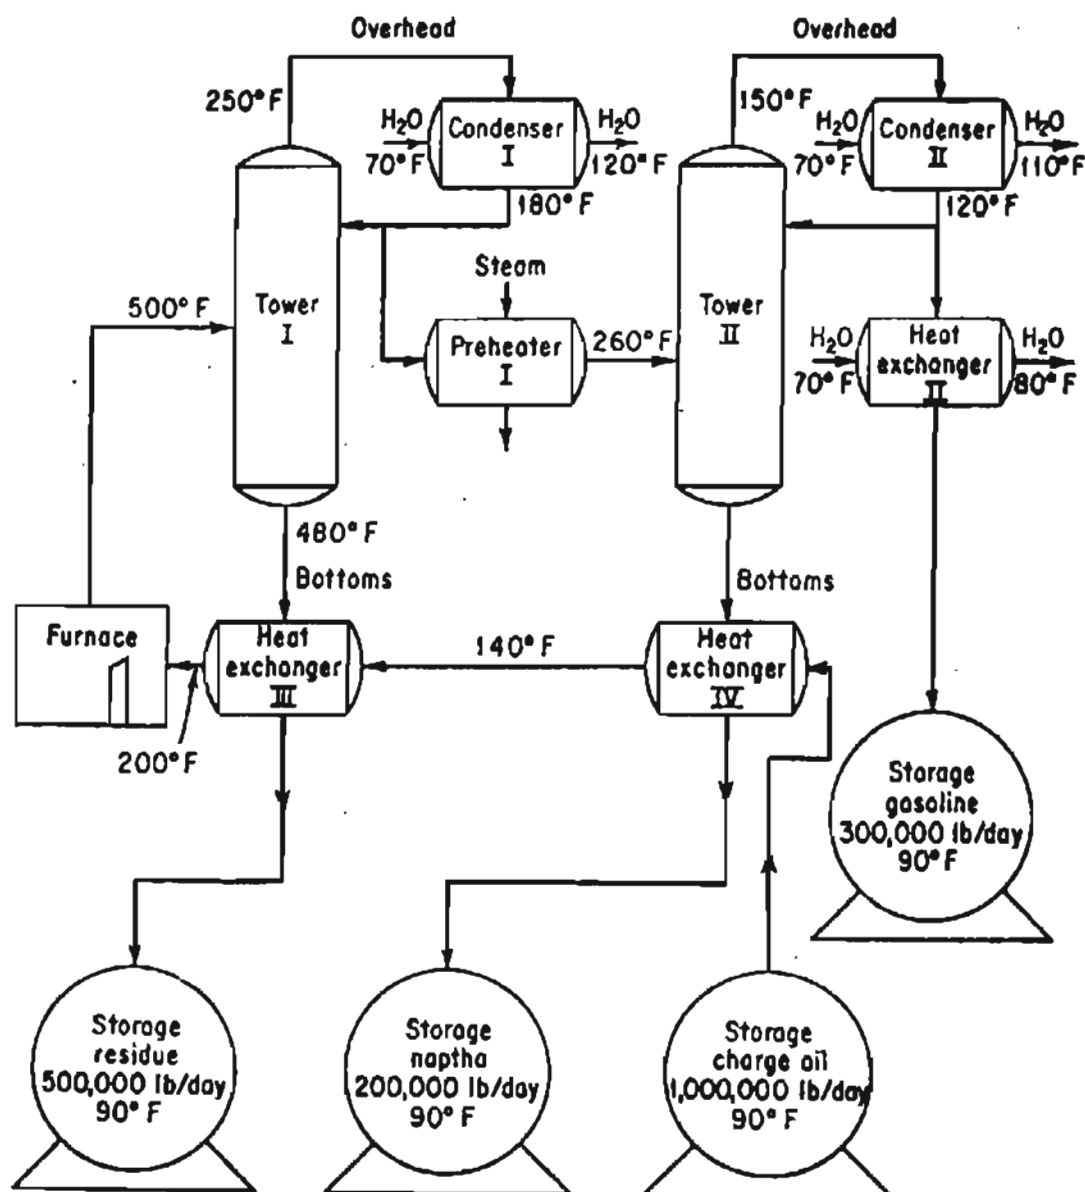

Figure P24.38
- ***24.38 The initial process in most refineries is a simple distillation in which the crude oil is separated into various fractions. The flow sheet for one such process is illustrated in Fig. P24.38. Make a complete material and energy balance around the entire distillation system and for each unit including the heat exchangers and condensers. Also,